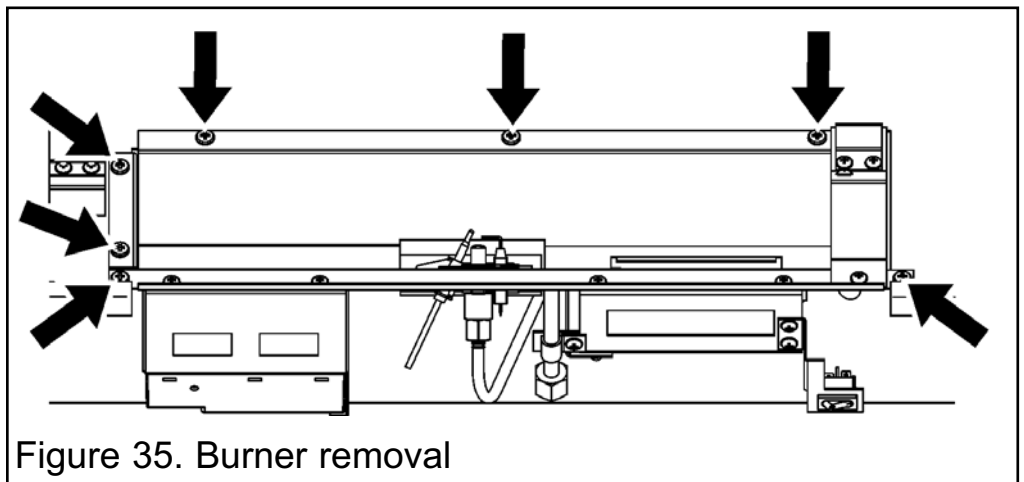

Figure 35. Burner removal
4. Unscrew and remove the seven screws from the top of the burner (See figure 35).